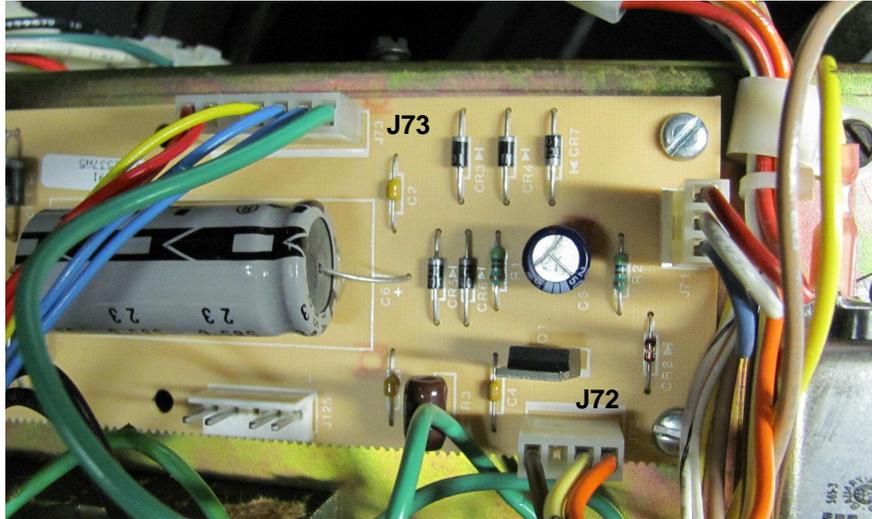

Figure 20
- The kit supplied **05-0164-00** DEX connector bracket is installed above the VMC using two of the existing mounting standoffs and screws. See Figure 20. Once installed, plug the 4 pin connector into **J3** near the left top of the VMC.